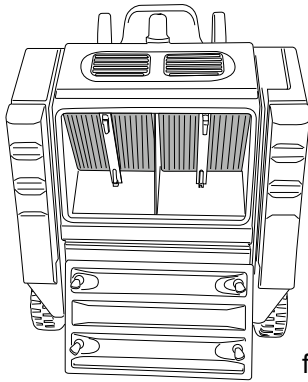

fig. 21
- remove the back panel from the machine (fig. 21).
- remove the two filters from their seat by turning locking restraining handles (fig. 21).